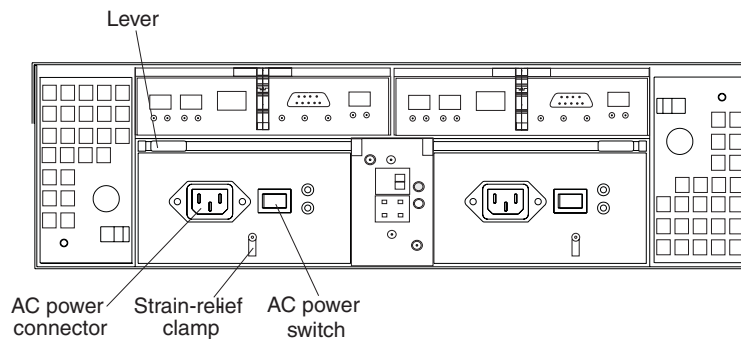

Figure 64. Lever for power supply removal
1. Turn off the ac power switch. See Figure 64.